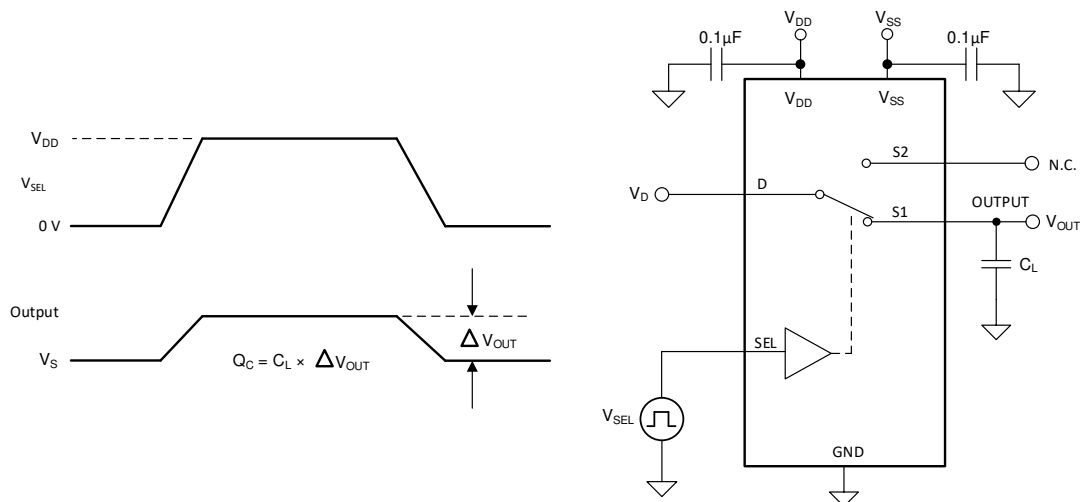

Figure 6-6. Charge-Injection Measurement Setup
The SN4599-Q1 has a transmission-gate topology. Any mismatch in capacitance between the NMOS and PMOS transistors results in a charge injected into the drain or source during the falling or rising edge of the gate signal. The amount of charge injected into the source or drain of the device is known as charge injection, and is denoted by the symbol Q_C . Figure 6-6 shows the setup used to measure charge injection from Drain (D) to Source (S_x).